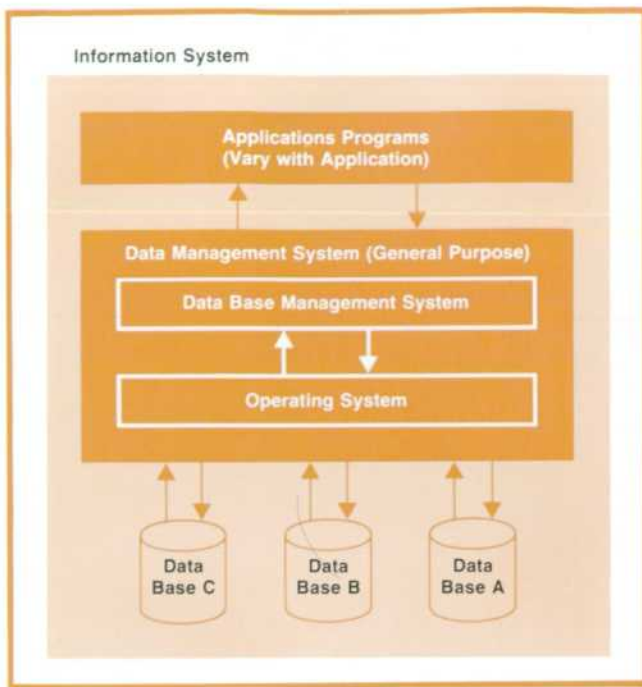

Fig. 1. General concept of a computer information system.
**C**OMPUTER INFORMATION SYSTEMS harness the processing power of the computer to collect and organize data and make it easily accessible to the businessman, scientist, or other user who needs it. A computer information system may be thought of as a set of applications programs using common data bases through a data management system, as shown in Fig. 1. The data management system is composed of two separate software entities: the operating system and the data base management system.